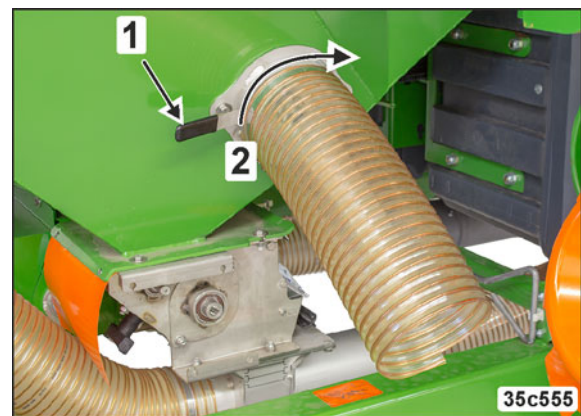

Fig. 262
1. Unlock (Fig. 262/1) and open (Fig. 262/2) the shutter. Empty the contents of the hopper into the calibration trough or a suitable container.